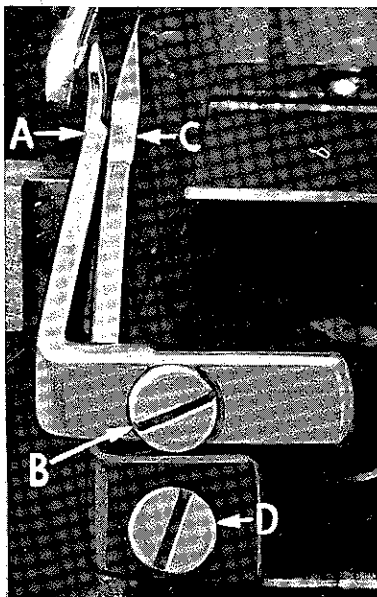

Fig. 5
Set rear needle guard (A, Fig. 5) as high as possible, without interfering with either lower looper or movement of lower knife holder, but still in position to deflect needle forward -.002 - .004 inch. Screw (B)
Assemble front needle guard (C, Fig. 5). When lower looper is springing needle off back guard, set front needle guard as close as possible to needle without touching. Screw (D) is used to adjust and set front needle guard. After this setting make sure there is no interference between needle guards and differential feed dog.